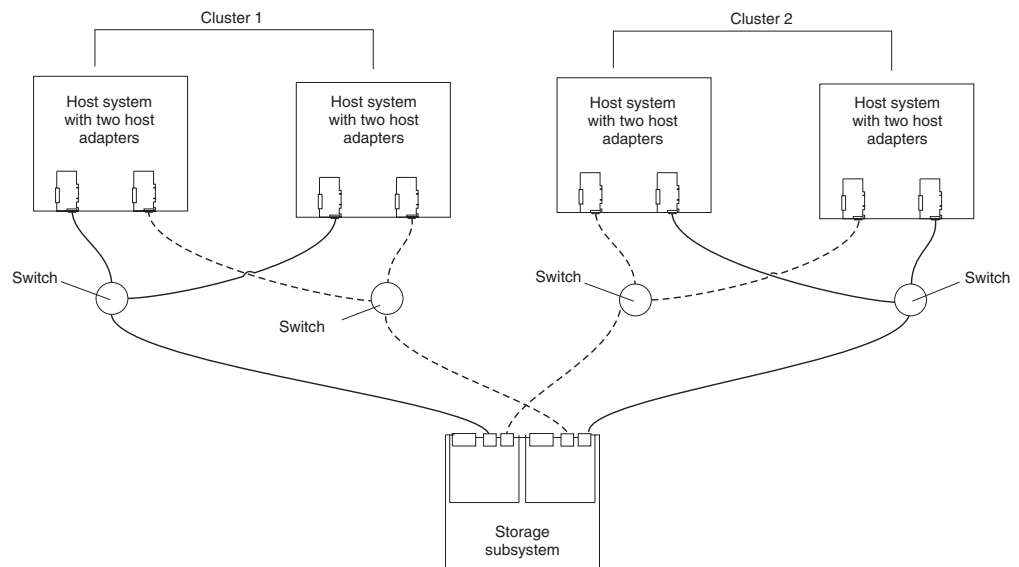

Figure 59. Example of a two-cluster configuration
- Two clusters, as shown in Figure 59 on page 85
Figure 59 shows an example of a two-cluster configuration.